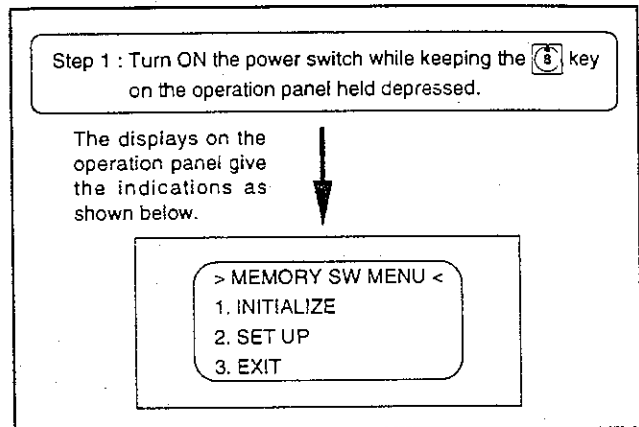

Fig. 3
<ul style="list-style-type: none"> <li>○ Adjusting the stroke of thread take-up spring               <ul style="list-style-type: none"> <li>Loosen setscrew ❶, and turn second thread tension ❷ with a screwdriver to adjust.</li> </ul> </li> <li>○ Adjusting the tension of thread take-up spring               <ul style="list-style-type: none"> <li>Securely tighten setscrew ❶, and turn second thread tension ❷ with a screwdriver to adjust. (Fig. 3)</li> </ul> </li> </ul> <p>(Caution) When using a thin thread such as thread count #50 or more, adjust the stroke of thread take-up spring to a smaller value.  The length of remaining needle thread after thread trimming will be stable.</p>	<ul style="list-style-type: none"> <li>○ If the stroke of the thread take-up spring is larger than the specified value :                Length of remaining needle thread is shortened, causing the needle thread to slip off the needle at the sewing start.</li> <li>○ If the stroke of the thread take-up spring is smaller than the specified value :                Needle thread breakage will occur at the time of thread trimming when using a thin thread.</li> </ul> <p>(Caution)  If the thread take-up spring interferes with the L-shaped thread guide, the thread take-up spring may fail to return to the initial position in prior to thread trimming. In this case, the length of remaining needle thread may be shortened. If this trouble arises, bend section ㉞ of the thread take-up spring, and widen the clearance of section ㉝ .</p>